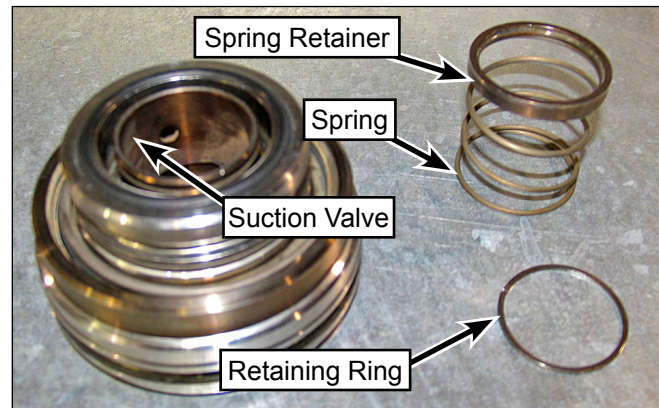

Figure 85: Install Suction Valve.
3. Position the suction valve in the valve body (Figure 85).